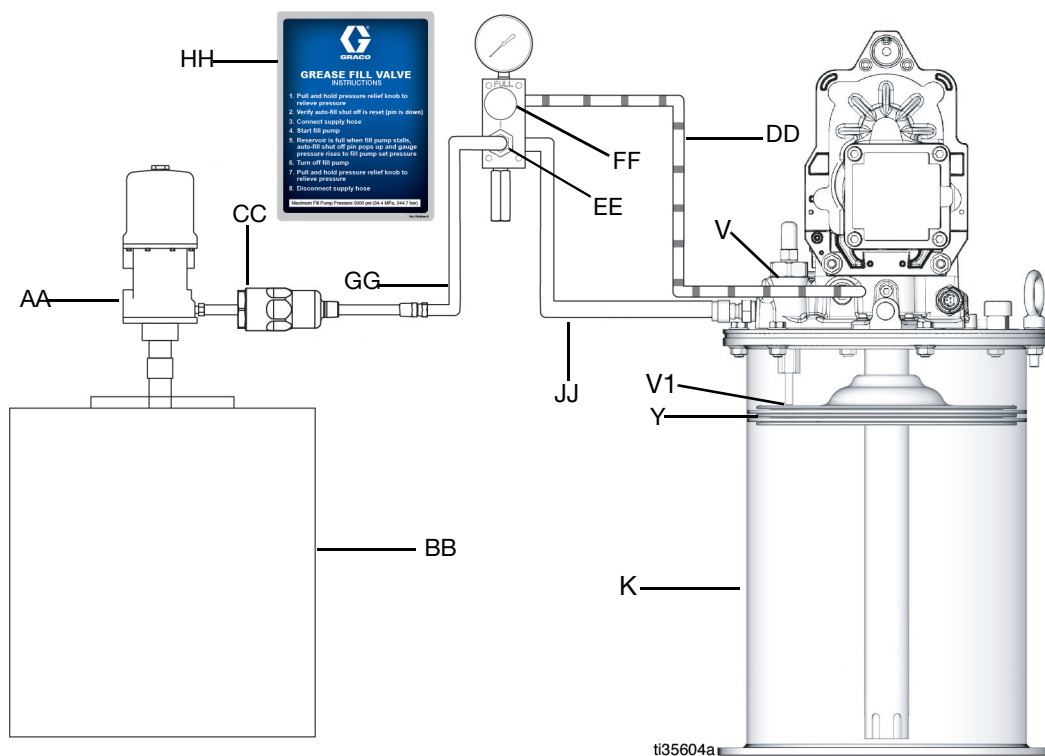

FIG. 16
4. Connect the supply hose (GG) between the remote fill station pump (AA) and the fill coupler (FC) port marked with an "I" (FIG. 16).
5. Start the remote fill station pump (AA).
6. When the tank (K) is filled:
- The remote fill station pump (AA) stalls (dead-heads),
7. Turn off the remote fill station pump (AA) (FIG. 16).